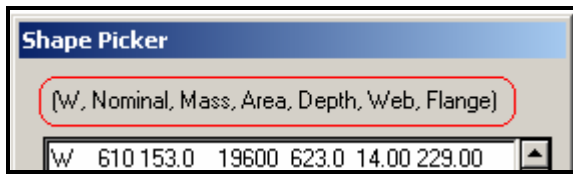

Figure 2-113: Steel Label
- 🎵 If you have a hard time decoding the steel designations here, take a look at the text at the top of the dialog (Figure 2-113). These items correspond to the columns of text in the body of the **Shape Picker**, and should help you find the shape you're looking for.